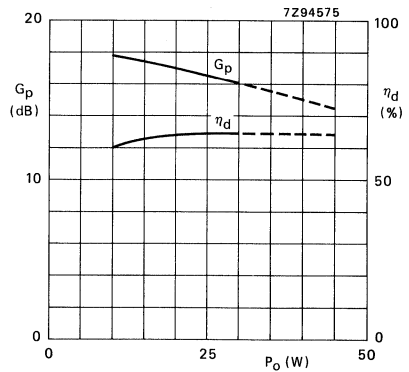

Fig. 4 Power gain and drain efficiency versus output power.
- the device can be applied at rated load power without an external heatsink when it is mounted on a printed circuit board (see Fig. 4).
\* Device mounted on a printed circuit board (see Fig. 4).